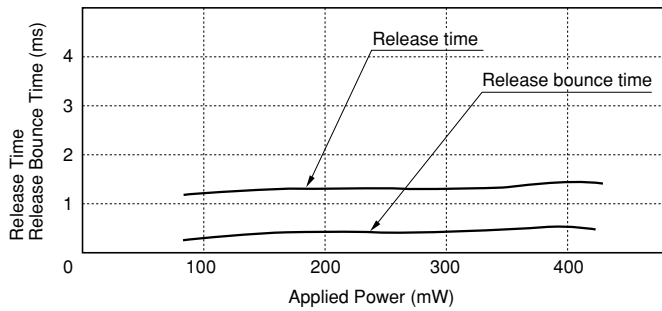

Figure 3.5 Driving Power vs. Timing
Figure 3.5 (1) shows the relations among the power applied to drive the relay, the operate time, and the bounce time. Figure 3.5 (2) shows the relations among the supplied power, the release time, and the bounce time, and Figure 3.5 (3) shows the relations among the supplied power, the release time, and the bounce time when a diode is not connected to the coil to absorb surges.